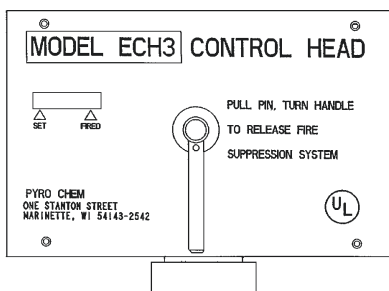

Figure 2-5. Electric Control Head.
The Model ECH3 electric control head is an electrically operated control head which can be connected to the PCL-300/460/600 cylinder valve. This control head will support an electric thermal detection system, a remote mechanical pull station (Model RPS-M), and an electric gas shutoff valve. It will not support a fusible link detection system. A miniature electric switch (Model MS-DPDT) is included. The Model ECH3 control head is available in both 120 VAC (Model ECH3-120, P/N 551202) and 24 VDC (Model ECH3-24, P/N 551201). It is equipped with a local manual control handle that allows for mechanical system actuation. Operation of the local manual control requires removing the pull pin and rotating the handle clockwise. The Model ECH3 control head can actuate a maximum of three (3) cylinders. See **Figure 2-5**.